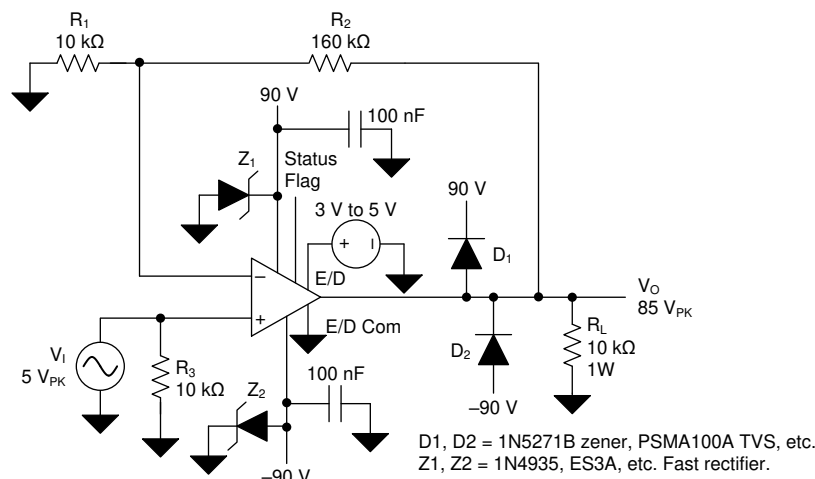

Figure 61. OPA462, High-Voltage Noninverting Amplifier, $A_v = 17$ V/V
The OPA462 high-voltage op amp can be used in commonly applied op amp circuits, but with the added capability of allowing for the use of much higher supply voltages. A very common application of an op amp is that of a noninverting amplifier with a gain of 1 V/V or higher. Figure 61 shows the OPA462 in a noninverting configuration.
Figure 61 shows a noninverting circuit with a moderately high closed-loop gain (A_V) of 17 V/V (24.6 dB). In this example, a $5\text{-}V_{PK}$ ac signal is amplified to $85\text{-}V_{PK}$ across a $10\text{-}k\Omega$ load resistor connected to the output. The peak current for this application is 8.5 mA, and is well within the OPA462 output current capability. Higher output current, typically up to 30 mA, may be attained at the expense of the output swing to the supply rails. A $\pm 90\text{-}V_{DC}$ power supply is required for this configuration.
A potentially destructive mechanism is the back EMF transient that can be generated when driving an inductive load. D_1 , D_2 , Z_1 and Z_2 in **Figure 61** have been added to the basic OPA462 amplifier circuit to provide protection in the event of back EMF. If the voltage at the OPA462 output attempts to momentarily rise above V_+ , D_1 becomes forward-biased and clamps the voltage between the output and V_+ pins. This clamp must be sufficient to protect the OPA462 output transistor. If the event causes the V_+ voltage to increase the power supply bypass capacitor, Z_1 , or both, a Zener diode or a transient voltage suppressor (TVS) can provide a path for the transient current to ground. D_2 and Z_2 provide the same protection in the negative supply circuit.
The OPA462 noninverting amplifier circuit with a closed-loop gain of 17 V/V has a small-signal, -3-dB bandwidth of nearly 800 kHz. However, the large-signal bandwidth is likely of greater importance in a high-output-voltage application. For that mode of operation, the slew rate of the op amp and the peak output swing voltage must be considered in order to determine the maximum large-signal bandwidth. The slew rate (SR) of the OPA462 is typically $6.5\text{ V}/\mu\text{s}$, or $6.5 \times 10^6\text{ V/s}$. Using the $85\text{-}V_{PK}$ output voltage available from the circuit in **Figure 61**, the maximum large-signal bandwidth is calculated from the slew rate formula. Equation 1, Equation 2 and Equation 3 show the calculation process.